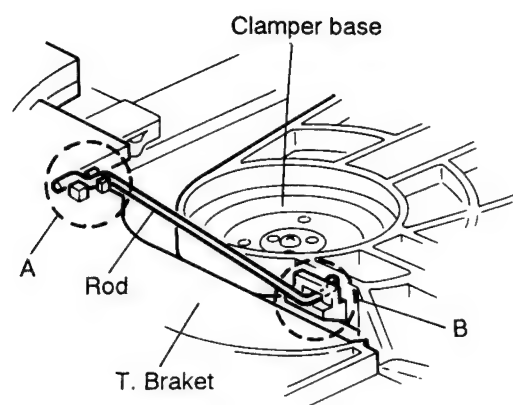

Fig. 5-25
(See Figs. 5-25 — 5-31)
4. From the T. bracket section (A) and clamber base section (B), remove both of the edges fixing the rod (See Figs. 5-25 and 5-26).
5. Remove the three screws (1) retaining the T. bracket (See Fig. 5-25).